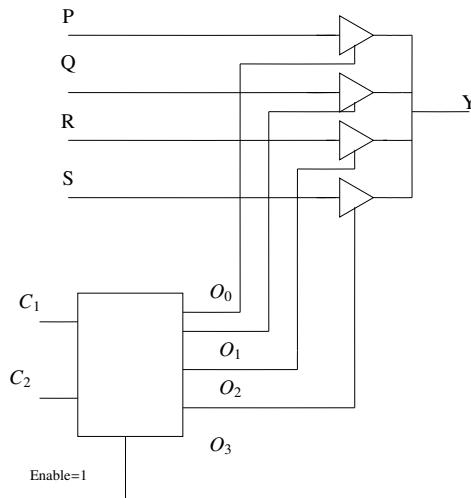

Fig. 3.17: Multiplexer
33. The functionality implemented by the circuit below in Fig. 3.17 is